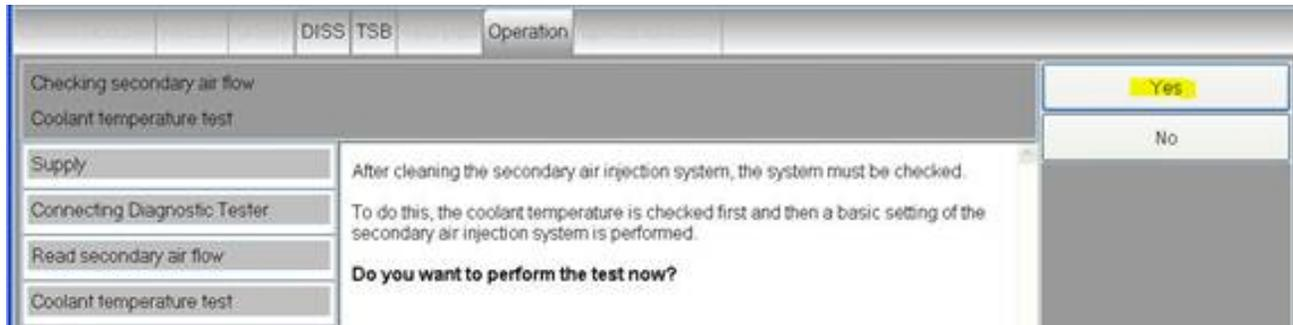

Figure 4. Select Yes to perform the test.
5. On the next screen, select **Yes** to perform the test (Figure 4).